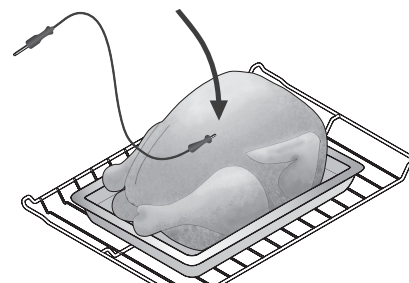

Figure 17: Place probe into thickest part of the poultry
- For whole poultry or turkey, fully insert the probe sensor into the thickest part of the breast (See Figure 17)